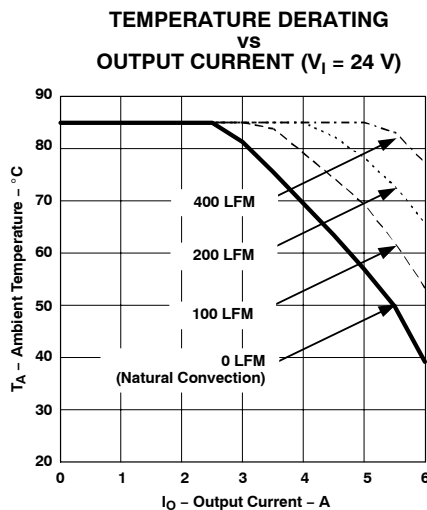
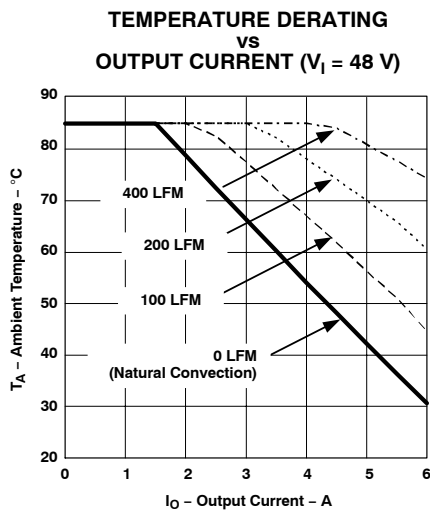

Figure 14.
Figure 15.
- (6) The temperature derating curves represent operating conditions at which internal components are at or below manufacturer's maximum rated operating temperature. Derating limits apply to modules soldered directly to a 100–mm × 100–mm, double-sided PCB with 2 oz. copper. Applies to Figure 14, and Figure 15.